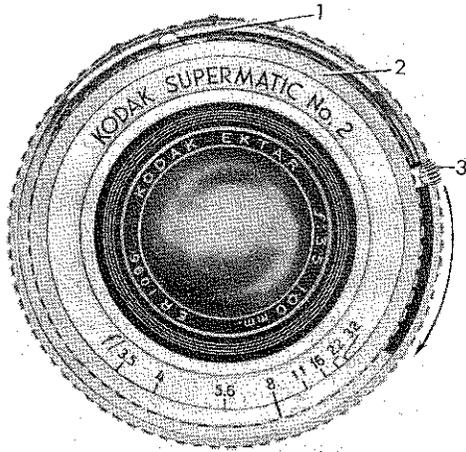

Figure 17—Lens Opening and Delayed Action Controls
camera on a tripod or other support and set the shutter for the proper speed and lens opening. Push the delayed action winding lever (3, figure 17) down as far as it will go. Press the trigger button AS FAR AS IT WILL GO. After about 10 seconds the exposure will be made.
f. LENS OPENINGS.—The lens openings are adjusted with the diaphragm pointer (1, figure 17) on the diaphragm control ring (2, figure 17).